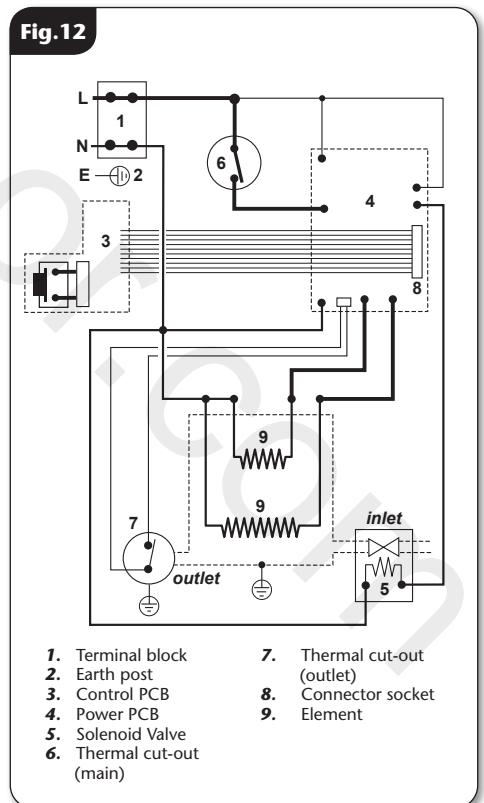

Fig.13
- Turn the valve spindle clockwise until it stops (**fig.13**).
- See **figs. 13 & 14** for the correct positions of the temperature spindle and temperature knob.